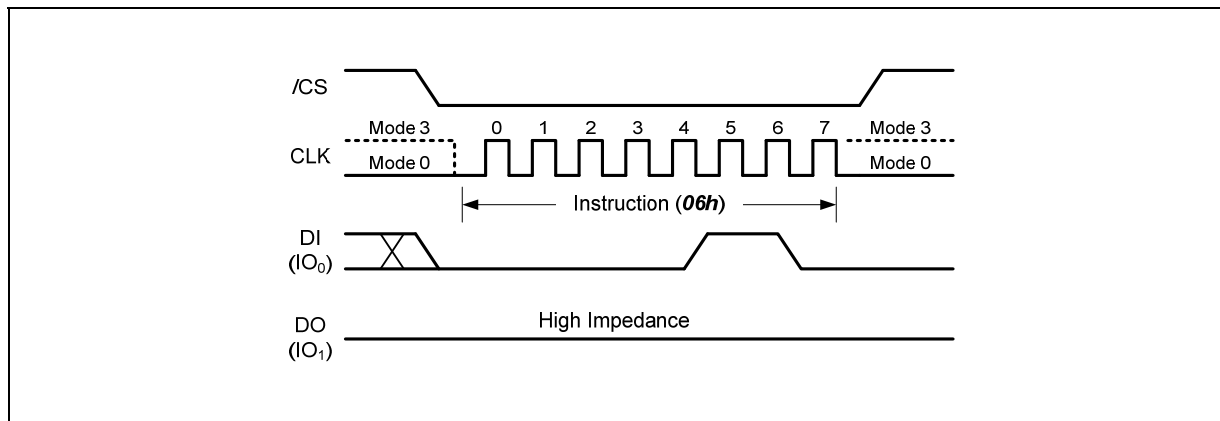

Figure 9. Write Enable Instruction
The Write Enable instruction (Figure 9) sets the Write Enable Latch (WEL) bit in the Status Register to a 1. The WEL bit must be set prior to every Page Program, Quad Page Program, Block Erase and Bad Block Management instruction. The Write Enable instruction is entered by driving /CS low, shifting the instruction code "06h" into the Data Input (DI) pin on the rising edge of CLK, and then driving /CS high.